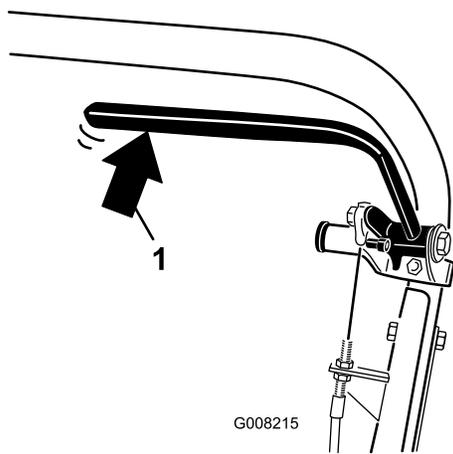

Figure 35
2. Using a spring scale, press rearward on the service brake lever (Figure 35). The parking brake should release when a force of 30 to 40 lbs (13.5 to 18 kg) is attained. If the parking brake releases before 30 to 40 lbs (13.5 to 18 kg) of force is attained, an adjustment to the brake cable is required. Proceed to step 3.